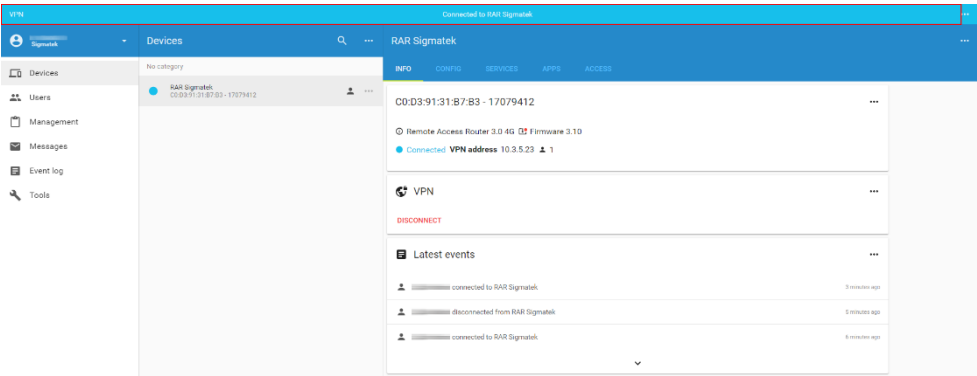

Figure 5.53 After establishing a VPN connection the device status indicator turns blue.
4. Once connected the device has a blue status indicator (Figure 5.53).